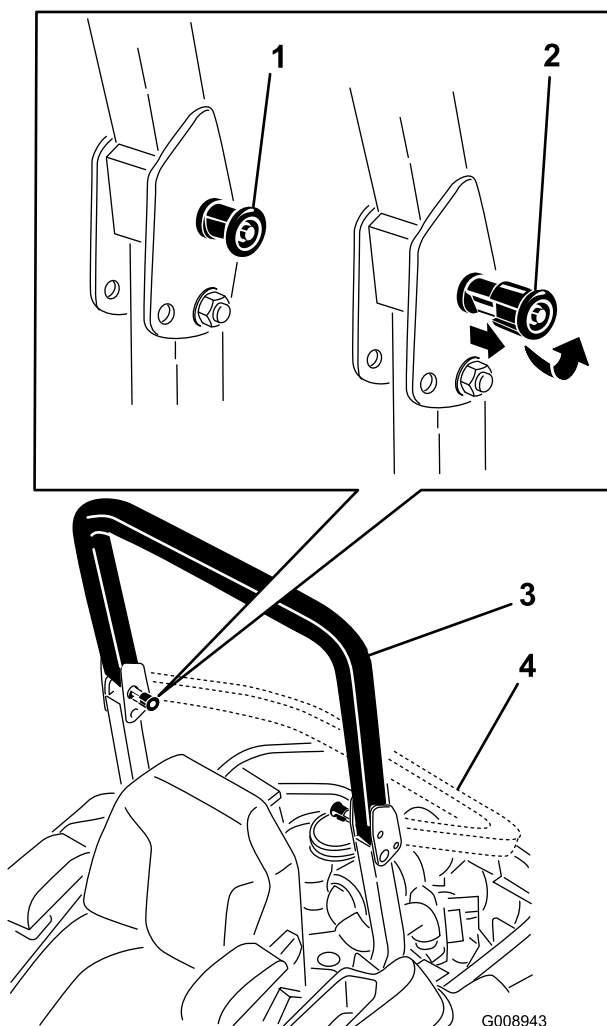

Figure 9
2. Pull both knobs out and rotate them 90 degrees so they are not engaged (Figure 9).
3. Lower the roll bar to the down position (Figure 9).
4. To raise the roll bar, raise the roll bar to the operate position and rotate the knobs so that they move partially into the grooves (Figure 9).
5. Raise the roll bar to the full upright position while pushing on the upper roll bar so that the pins snap into position when the holes align with the pins (Figure 9).